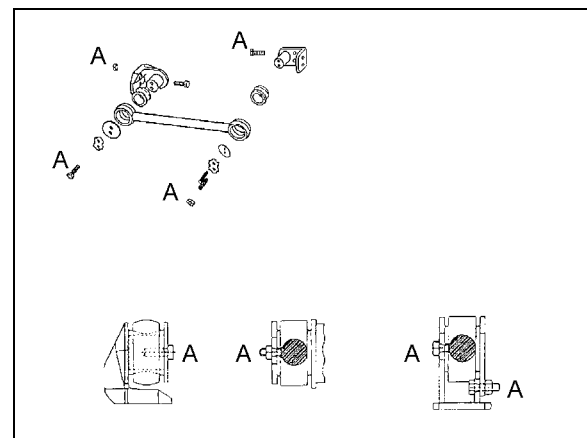

FIGURE 10: RADIUS ROD INSTALLATION 16028
1. Lightly spray the radius rod support with water. Place the radius rod end over the radius rod support (Fig. 10).